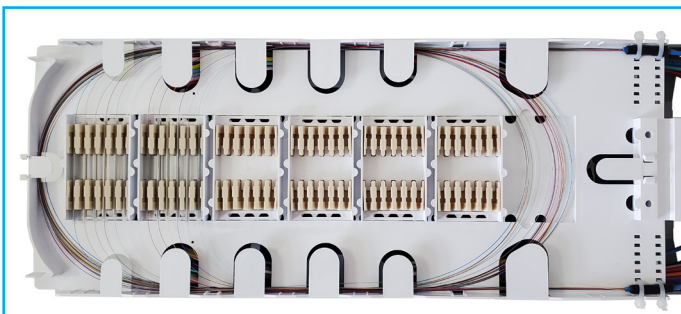

Figure 6: Single Fiber Storage
- 5.4 Subsequent splices should be stored in the tray from the top slot down. Slack loops can be secured under the tabs around the outside edges of the tray and in the spaces between splice modules. (Figures 6 and 7).